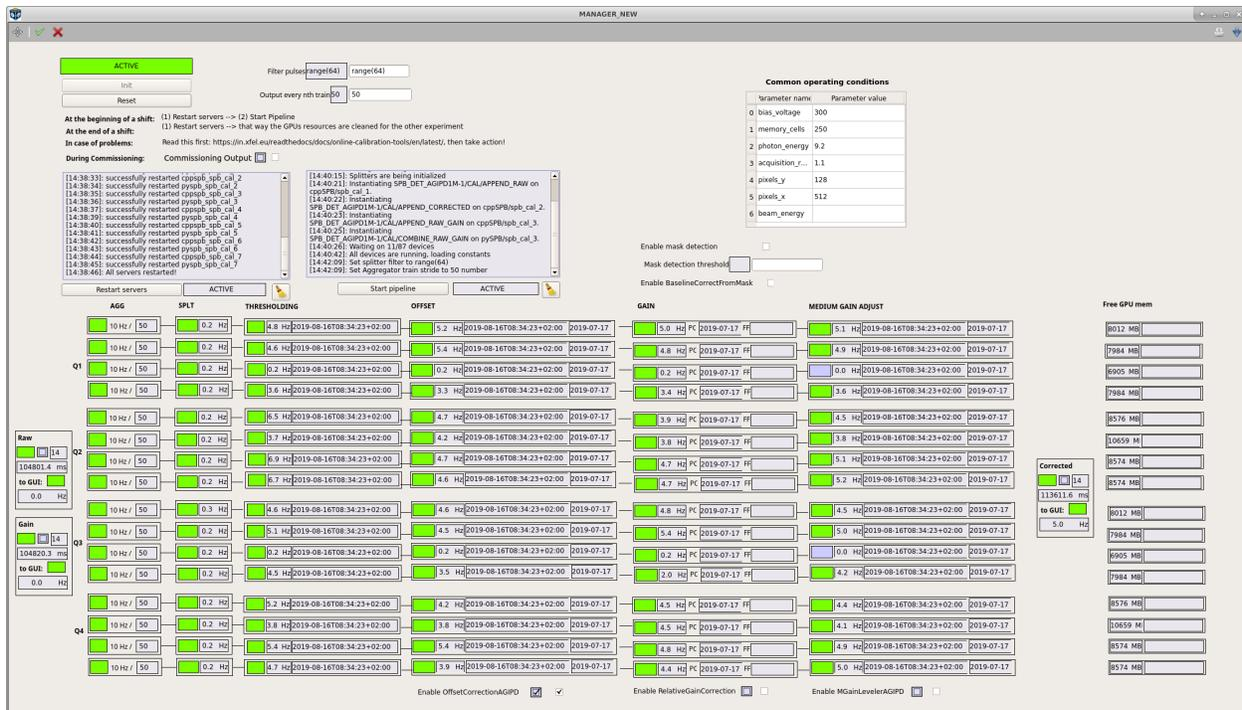

Fig. 11.5: Calibration pipeline overview scene of AGIPD. Other detectors look similar.
- on the *CAL MANAGER* scene (see Fig. 11.5) is the RAW appender updating, are all splitter input rates updating according to the *Output every nth train setting*? If so, data is entering the pipeline and something went wrong on initialization. Perform the check mentioned above. If there are no updates, check that the DAQ is in monitoring/acquiring state and that the proper data sources are selected, try again. Follow general DAQ trouble shooting instruction (*General Detector DAQ Troubleshooting*).